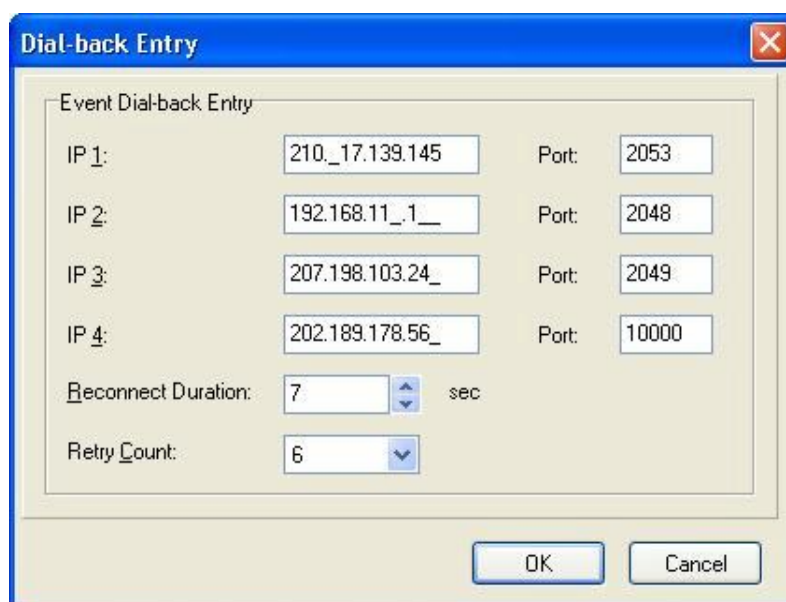

Fig 8.2.4c
Step 3 : Click **[Dial Back Settings]** button to pop up **{Dial-back Entry}** panel as **Fig 8.2.4c**